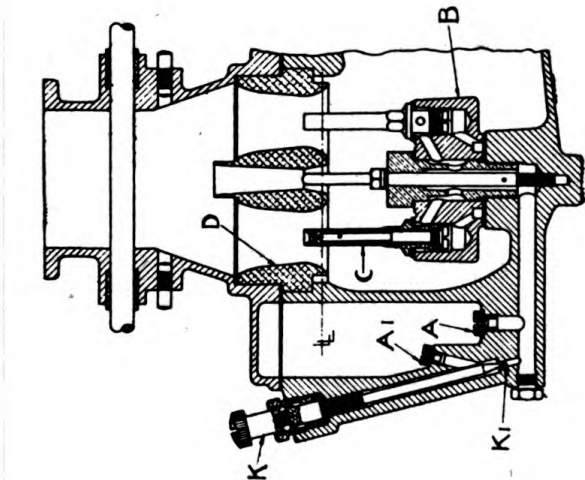

FIGURE 7A
In the Multi-Venturi carburetor the main jet is shown at (A) in Fig. 7a. Fuel measured through the jet flows through the main jet channel to the jet holder (B) and through passages therein to the four discharge tubes (C) which terminate at the throat of the four venturii (D).